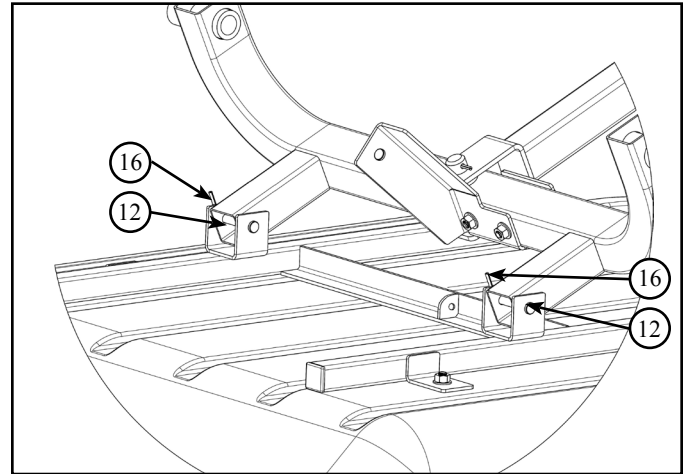

Figure 3.13- Secure Axle Frame to Bed Frame
2. Insert hinge pin (12) through each pivot bracket and secure each with a hairpin cotter (16). *Refer to Figure 3.13*